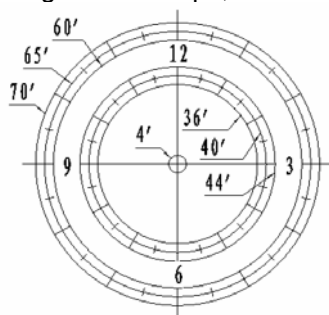

Figure 14
- (4) Use the “◀” or “▶” button to turn the RA axis to rotate the Polar Scope dial to a clock position where 12 is at the top, as shown in **Figure 14**. You may release the R.A. Locking Screws and hold the OTA while turning the R.A. axis;